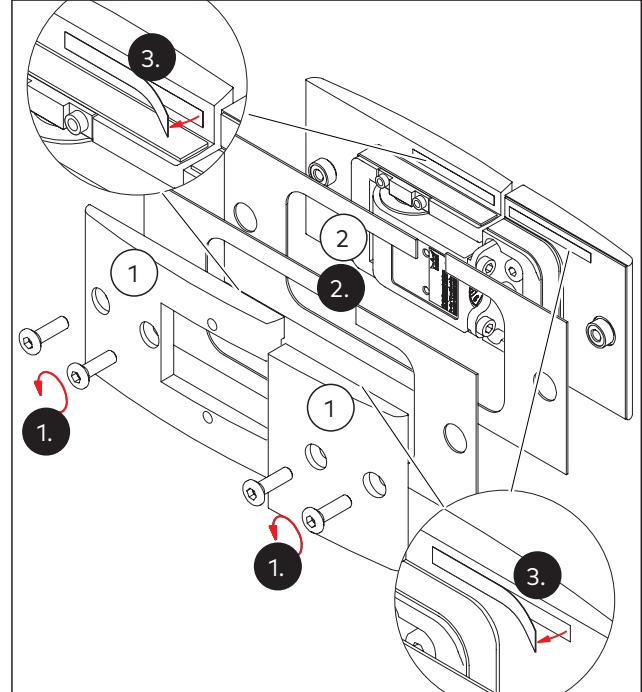

Fig. 28 Preparing the double-action hinge
1. Disassemble the counter-plates (Fig. 28/1).
2. Select the appropriate gaskets (Fig. 28/2) according to glass thickness (see Chapter 4.2).